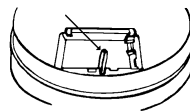

Fig. 3
5. When installing the battery, press the battery reminder finger down into the battery compartment and install the battery (see Figure 3).